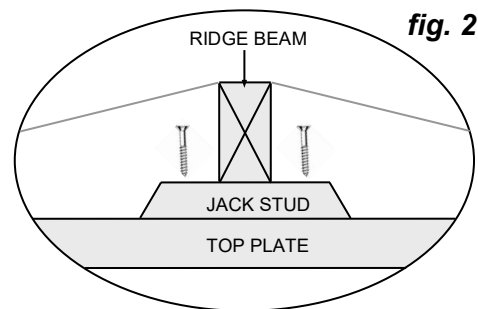

fig. 2
- Secure with 2 x 75mm screws through the top of the Jack Studs into the Timber Top Plate (fig. 2).